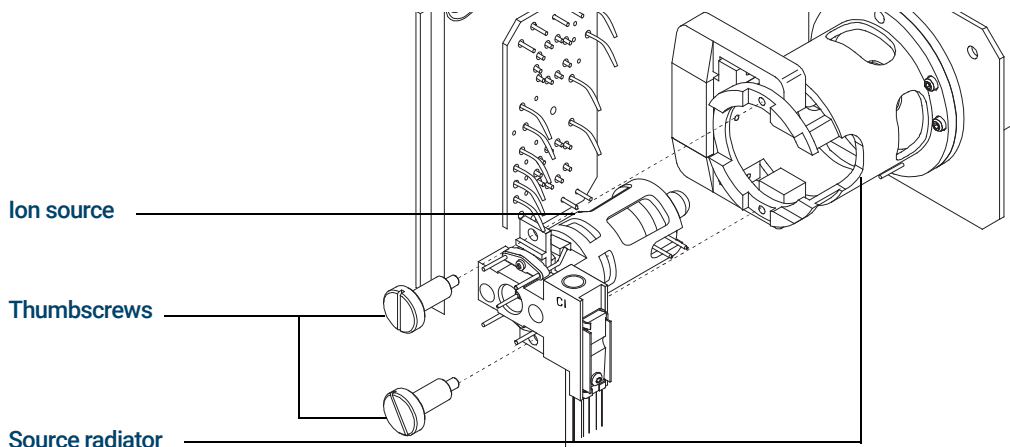

Figure 73. Installing the CI source
- 4 Install the thumbscrews. (See Figure 73.)